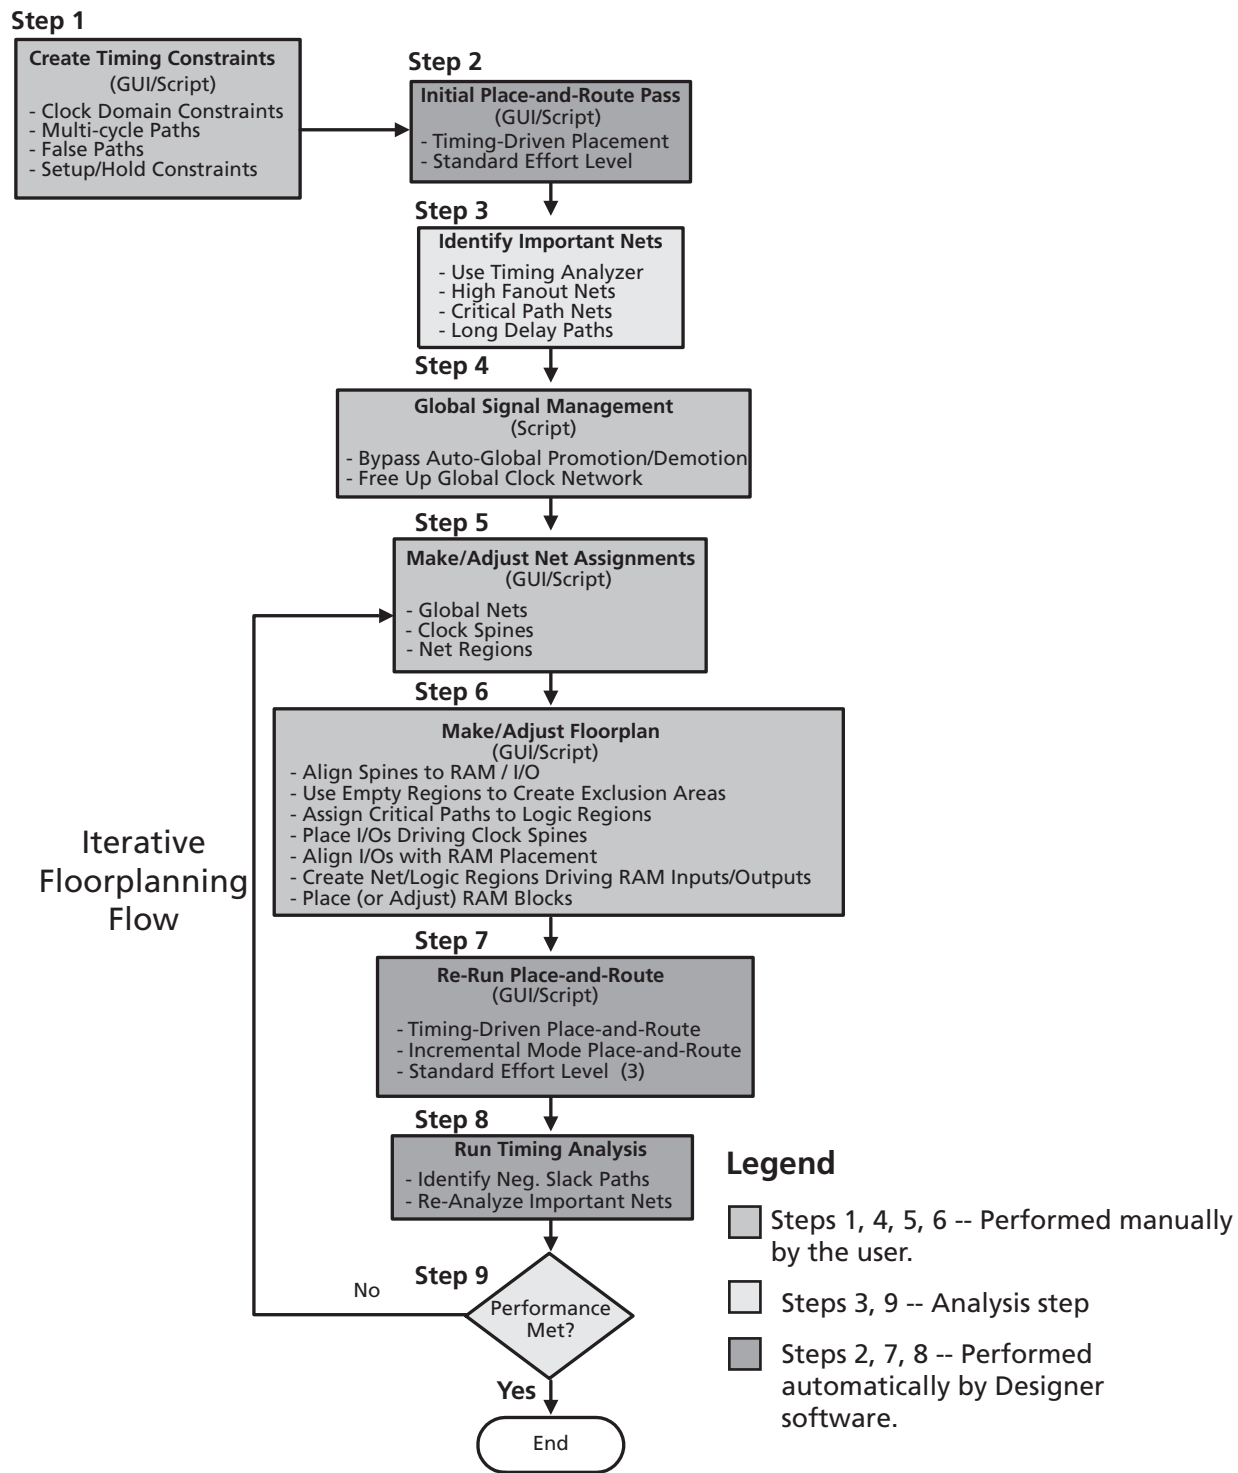

Figure 1 • ProASIC/ProASICPLUS Floorplanning Flow
- Figure 1 describes the ProASIC/ProASICPLUS floorplanning flows. Dark shaded items represent actions you need to perform manually while light shaded items are actions automatically performed by the Designer software. Each step of the usability flow will be discussed in more detail below.
The ProASIC/ProASICPLUS guidelines listed below illustrate in detail the nine steps performed in the ProASIC/ProASICPLUS usability flow shown in Figure 1 on page 3. Under each step detailed guidelines are given with the following exceptions: